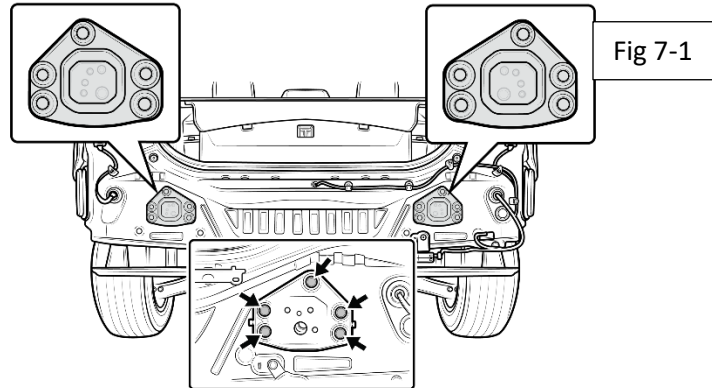

Fig 7-1
- (a) Once Bumper Beam is removed, remove 10 14mm Bolts (5 on LH, 5 on RH) from the bumper beam supports that sit behind the bumper beam. Then fully remove and discard the LH and RH Bumper Beam Brackets. (Fig. 7-1)